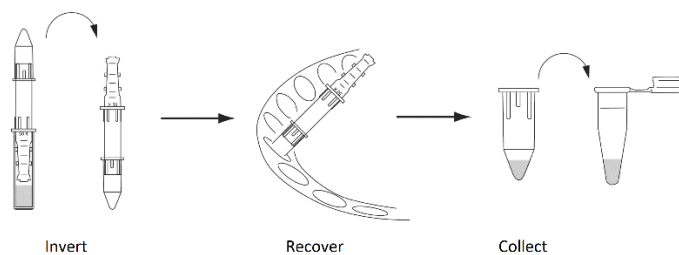

Figure 4. Collection of purified and concentrated azide activated antibody
- 3.12 Invert the antibody concentrator into the conical collection tube as shown in Figure 4.